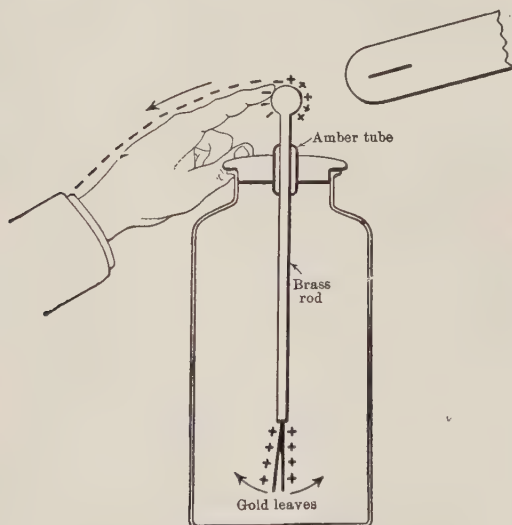

FIGURE 421. — GOLD LEAF ELECTROSCOPE.
**281. The Electroscope.** — The suspended wooden rod used in Experiment 108 affords a method of showing the presence of relatively large electric charges, but it is not very sensitive and does not identify the nature of the charge brought near it. The *gold-leaf electroscope* (Figure 421) may be used to detect the presence of very small electric charges, to show whether they are positive or negative, and to compare the amounts of the charges. A brass rod has a brass disk or knob soldered to the top, and to the bottom are fastened two strips of gold leaf, about an inch long, in contact with each other when uncharged. For protection against air currents, the rod is set through an insulating stopper in a glass con-